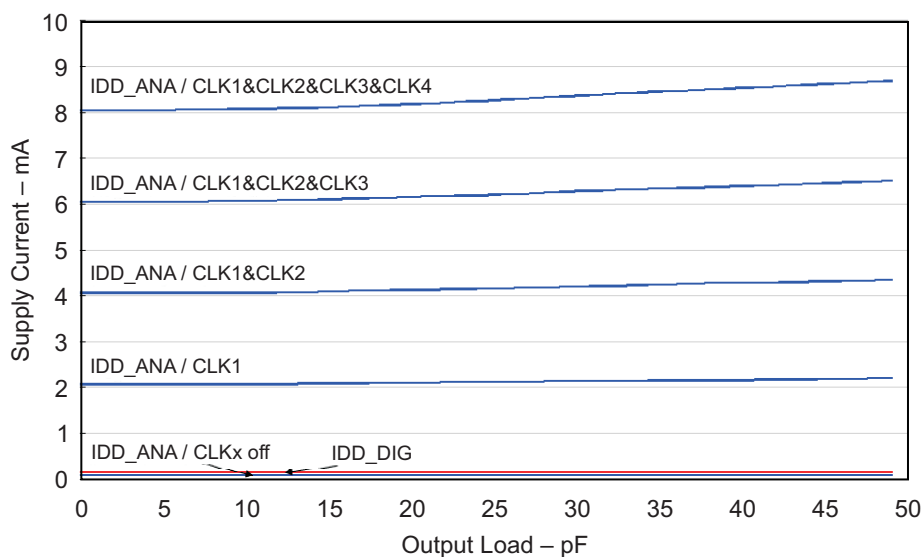

Figure 8.
(1) The total current consumption when no output is active is calculated by  $I_{DD\_ANA}(\text{off}) + I_{DD\_DIG}$ .
(2) For  $C_L = 30\text{ pF}$ , the typical current for one output is 2.2 mA (see Figure 8).
(3) The  $I^2C$  standard specifies a maximum  $C_I$  of 10 pF.